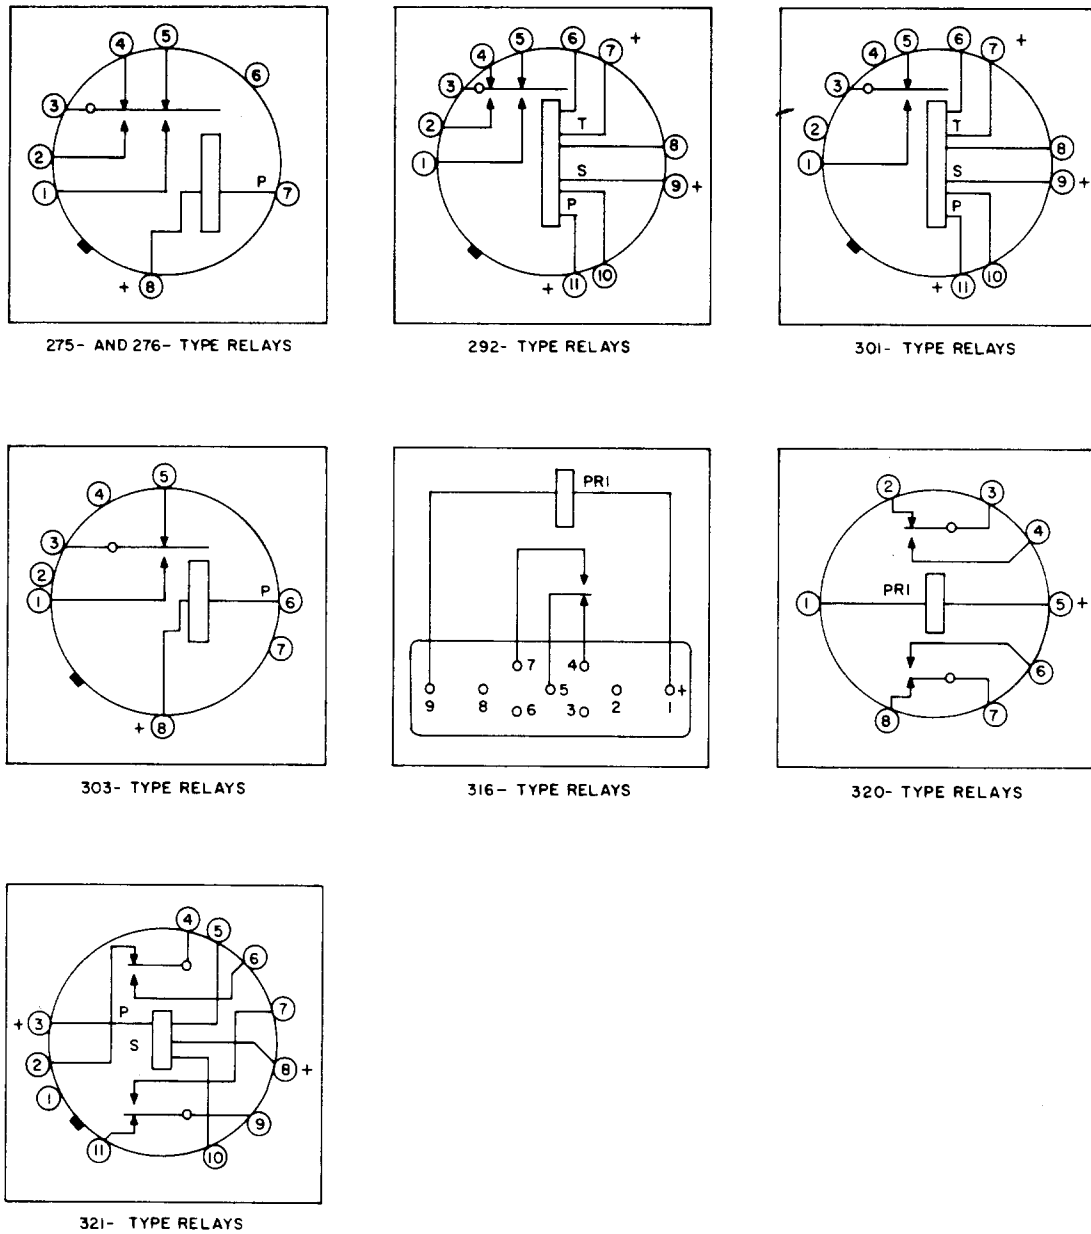

Fig. 1—Winding and Contact Arrangements
1.06 The J94725A test set is used to test the relays in this section. Figures 1 through 9 are in reference to the figure switches found on the J94725A test set. Each figure has the winding and contact arrangements of the various types of relays.
4.11 Determine to which relay terminals (1 through 11) the winding and contacts of the relay are wired. The wiring arrangements of the relay may be determined either from the circuit schematic which specifies the relay or from Fig. 1 through 9.
4.21 Determine to which relay terminals the winding and contacts of the relay are wired. The wiring arrangements of the relay may be determined either from the circuit schematic which specifies the relay or from Fig. 1 through 9.
4.22 Table F gives the cross-connections on the J94725A, L4, test set to be used for testing 316-type relays as shown in Fig. 1 through 7.
4.23 Table G gives the cross-connections on the J94725A, L4, test set to be used for testing 320-type relays as shown in Fig. 1.
4.24 Table H gives the cross-connections on the J94725A, L4, test set to be used for testing 321-type relays as shown in Fig. 1.